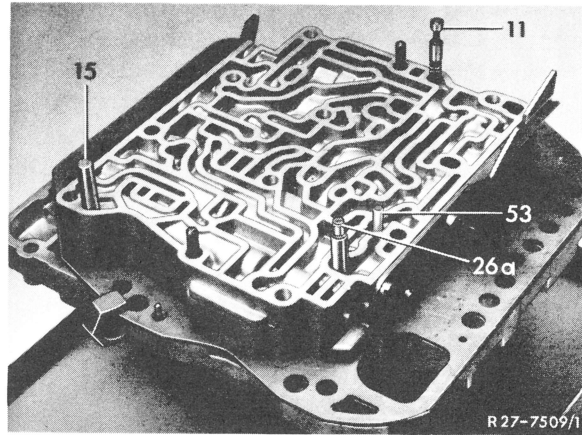

Fig. 10
**19** Insert piston brake shift 4-3 (15), as well as filler piece (26a), shift valve releasing end B 2 (11) with spring and plastic pin (53) (Fig. 10).